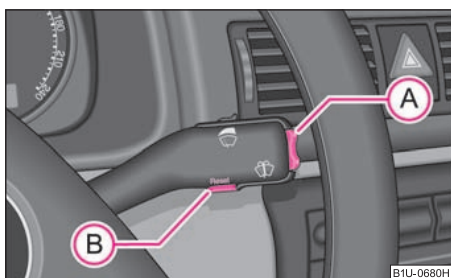

Fig. 26 Information display: Control elements
- You can activate the menu by pressing the rocker switch (A) ⇒ fig. 26 for more than 1 second.
- You can select individual menu points by means of the rocker switch (A). The selected information is displayed after pressing the button (B) for a short time or after releasing the rocker switch (A) (after about 4 seconds).
The error messages are faded out after 10 seconds or by actuating the rocker switch **(A)** ⇒ page 24, fig. 26 and are stored under the information **CAR STATUS**.